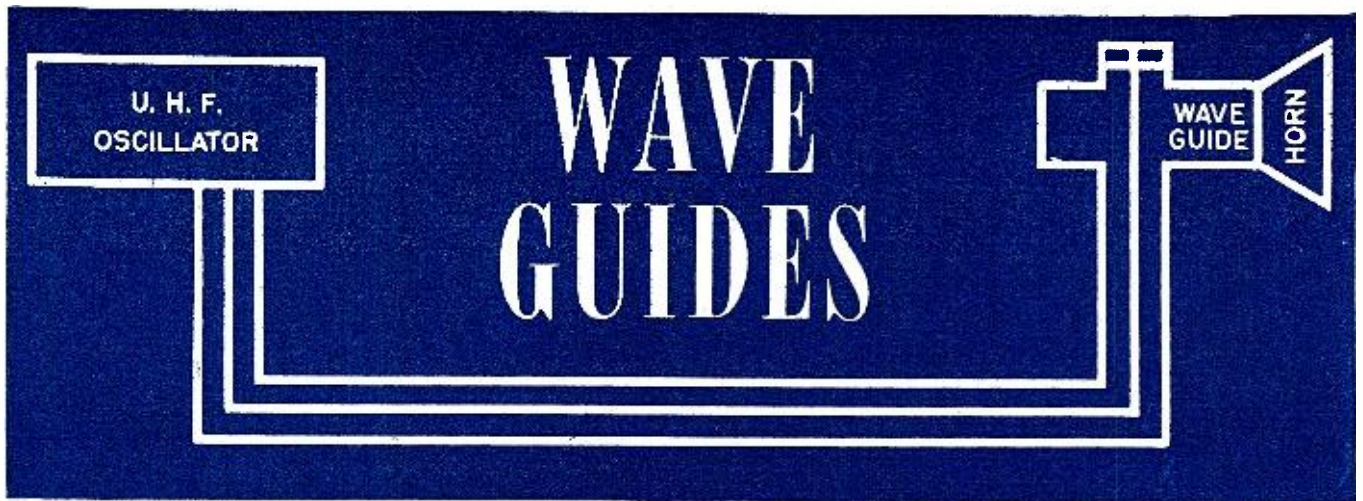

Fig. 1. A block diagram of a wave guide used to transmit ultra-high frequencies.
Fig. 1. Angle C should be greater than 30° to avoid coast line effect. (1) Effect of coast line when aircraft is taking bearing. Black position is actual; white is indicated. This condition would also exist, to a lesser degree, if bearings were taken on Station B. (2) Ideal condition for DF. (3) Effect of hill on track bearings. Black position is actual; white indicated by terrain distortion. Satisfactory bearings can be taken on Station B. (4) Similar conditions to three. (5) Good bearings on A and B, although caution must be observed in using A, since path of wave is still close to obstruction. Dotted line shows danger of reflection and the effect that obstructions would have on signals.
A diagram of a wave guide set-up is shown drawn in Figure 1.
We will assume that the sides of the wave guide (still rectangular) are made of a material that has infinite conductivity. They will not support any potential difference because an "infinite" current flow would immediately take place, neutralizing the potential difference. Any electric lines of force that we have must cut the surfaces at right angles, since at this angle the electric field would not cause any current to flow. In addition, at their points of crossing, the magnetic lines of force and the electric lines will have to be at right angles to each other. Furthermore, it should also be remembered that magnetic lines of force form complete paths. A look at Figure 2A will show an end view of a rectangular wave guide (looking into the horn of Fig. 1). In the diagram the closer the solid arrows are bunched together, the stronger the field. At the two sides, of course, we must not have any electric lines of force because then a current would flow, dis-